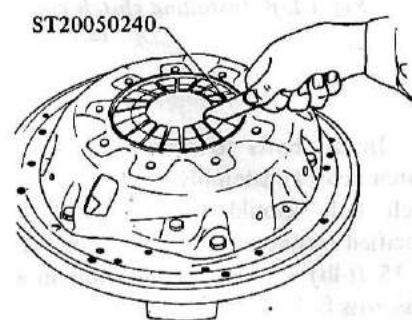

Fig. CL-5 Adjusting spring height
(2) Measure height "A" at several points with a vernier caliper depth gauge. If height "A" of spring end is beyond specified value of 33 to 35 mm (1.30 to 1.38 in), adjust spring height with Diaphragm Adjusting Wrench ST20050240. See Figure CL-5.